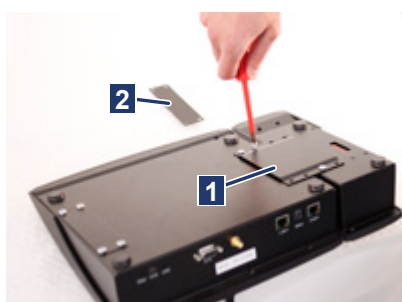

Figure 5-4: Screw the devices together
8. Cover the flat ribbon cable with the connecting plate and screw the devices together (Figure 5-4/1).
9. Cover the open flat ribbon cable connector of the additional keypad with the remaining cover plate and screw it tight (Figure 5-4/2).